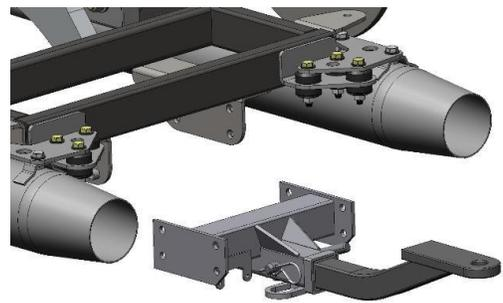

Figure 31
- Install hitch receiver to body frame with supplied eight 5/16"-18 x 1" L Hex Bolts and 5/16" SAE Flat Washers. **Figure 31.**